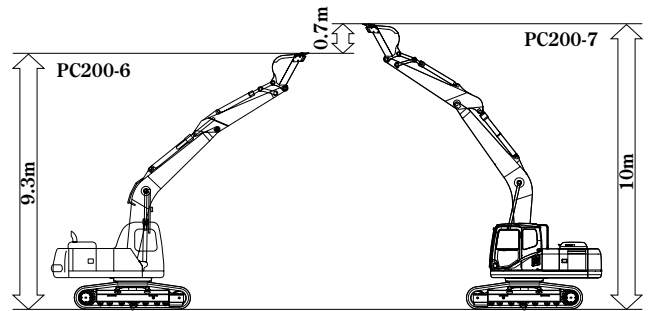

Fig. 6 Increased Max. Digging Height
- (3) The bucket digging force has been brought up by 10% to realize speedy and dynamic operation of the machine. Moreover, the bucket digging force has also been increased by 17%. This increase in turn contributes to raising the digging power that is measured with a formula of "Speed × Force". Meanwhile, the arm digging force has been increased by 11%, too. Incidentally, a one-touch power max. switch was one of the main features of the forerunning PC200-6, which enables the machine to exert a high power at a critical moment of digging. This useful function has been employed in the new machine, too.
- (4) As an essential element for still enhancing the machine's working efficiency, machine stability has been increased as much as 15% as compared with PC200-6, which has led to the operator's feeling of higher stability when digging and higher efficiency in the lifting work. Now operators used to harbor a desire to reach out to a still higher point with the arm equipped with an attachment. This desire came true as the max. digging height of 10 meter was realized. (See Fig. 6)